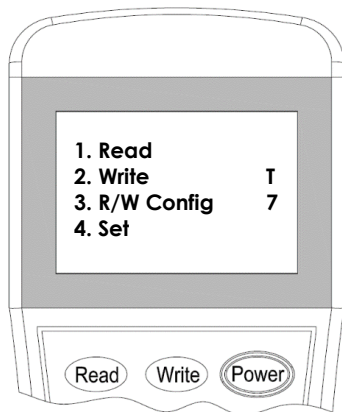
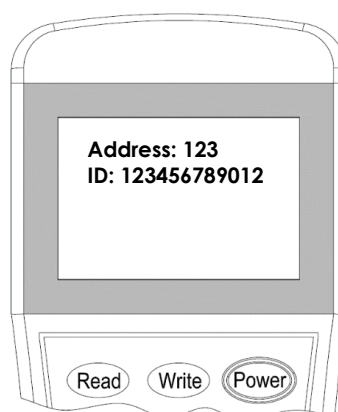

Figure 7
Figure 8
2. Switch-on the programmer, then press button **“Read”** or **“1”** to enter to Read mode (Figure 7). The programmer will display the configuration after few seconds. (Figure 8).